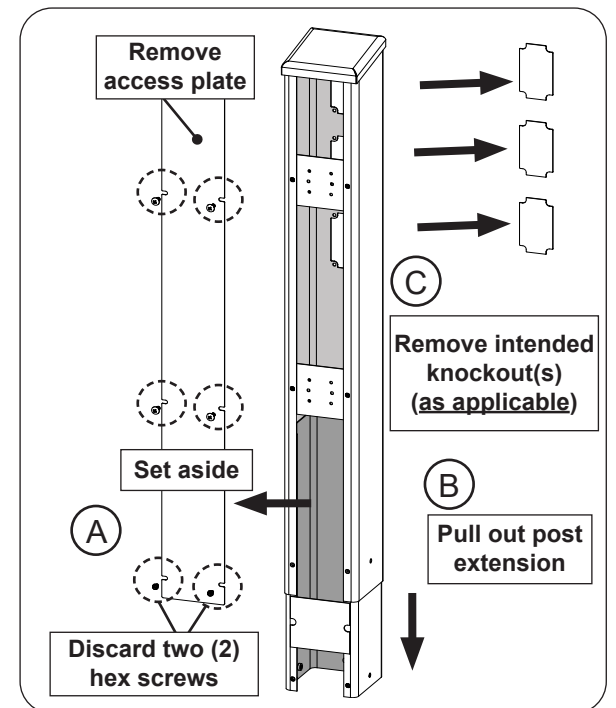

Fig. 5-2 Post preparation
3. Pull out the post extension from the post. See Fig. 5-2, B.
4. As needed, select and remove the intended knockout(s) from the stainless steel post. See Fig. 5-2, C.